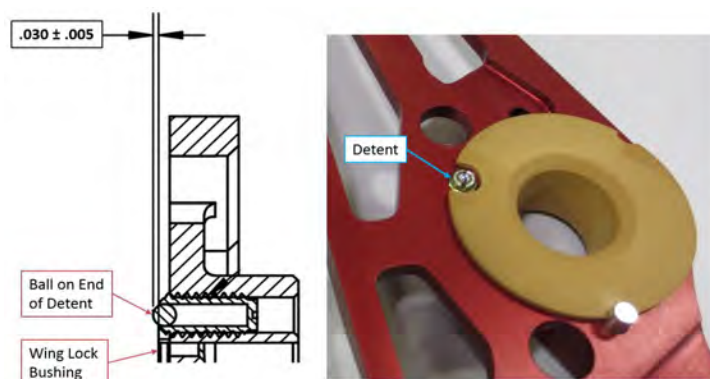

FIGURE 17-10
- a. Apply LOCTITE® 222™ to the threads of a new 3408A112 spring detent then, using a slot-head screwdriver, thread it into the handle to a depth of .030-.005 inches (Figure 17-10).
- c. Insert the ICA011209(RH)/ICA022210(LH) wing lock mounting boss into the ICA008149 wing lock bushing.